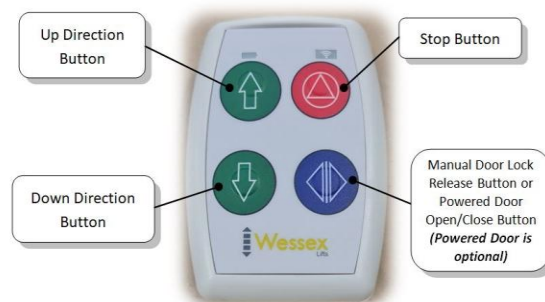

Fig 1 – Wireless Call Station
9. Exit the lift and close the door, by pressing the **Blue** door button. See Fig 1